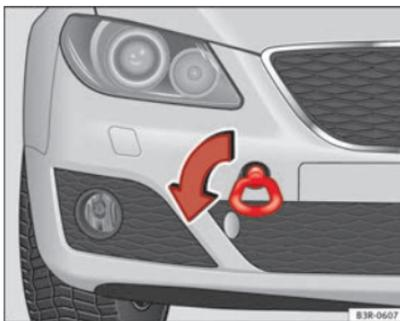

Fig. 232 Fitting the towline anchorage to front of the vehicle
- Bolt the anchorage to its limit to the *left*, in the direction of the arrow ⇒ Fig. 232. ■